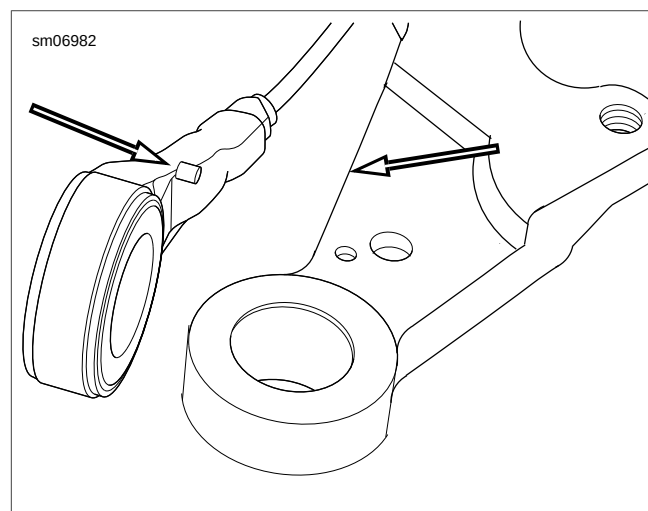

Figure C-14. Rear Wheel Speed Sensor Index Pin (ABS Equipped)
1. See 2.5 REAR WHEEL and Figure C-14. Install axle with **new** rear wheel speed sensor in place. Make sure index pin is pointed outboard toward rear fork. Rotate wheel speed sensor so that the index pin is against the lower edge of the rear caliper mounting bracket.